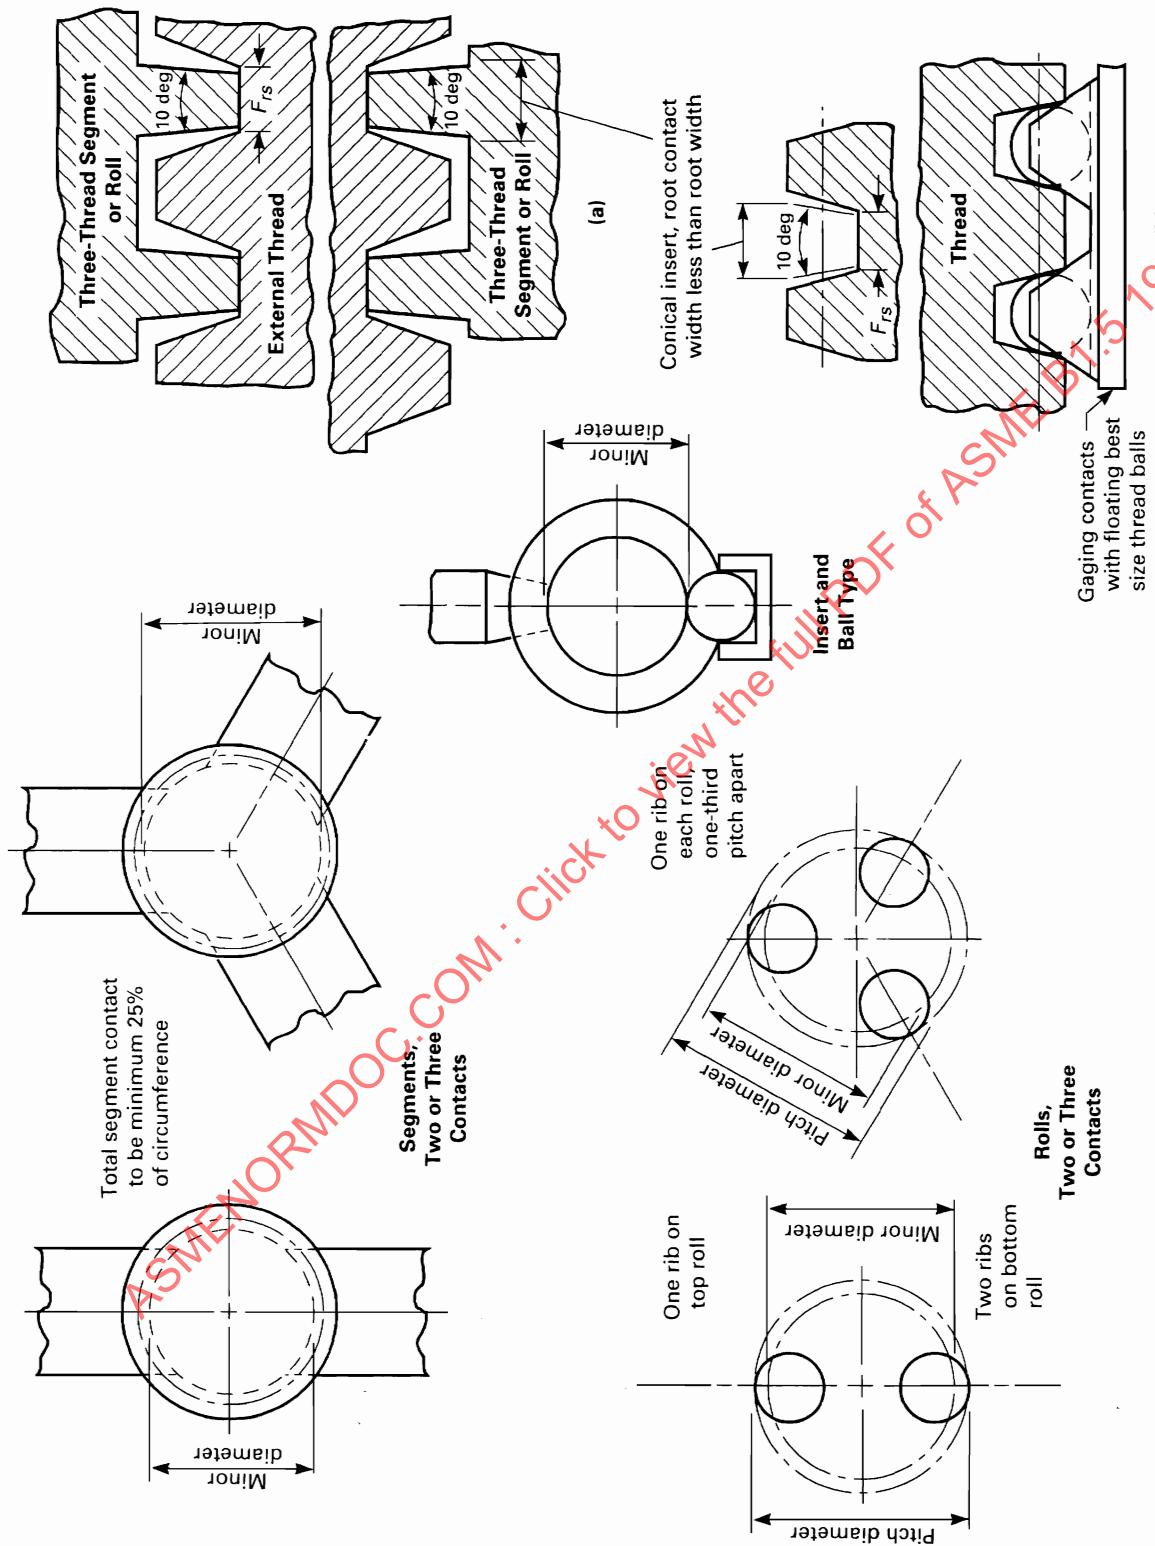

FIG. 15 INDICATING DIAMETER GAGES — MAXIMUM/MINIMUM MINOR DIAMETER LIMIT AND SIZE FOR EXTERNAL THREAD
4.5.8 Indicating Gage for Minor Diameter. The designs for the minor diameter indicating gage are shown in Fig. 15 where the root width must be less than the thread root width to clear. The gage is set to the maximum minor diameter of the external product thread.